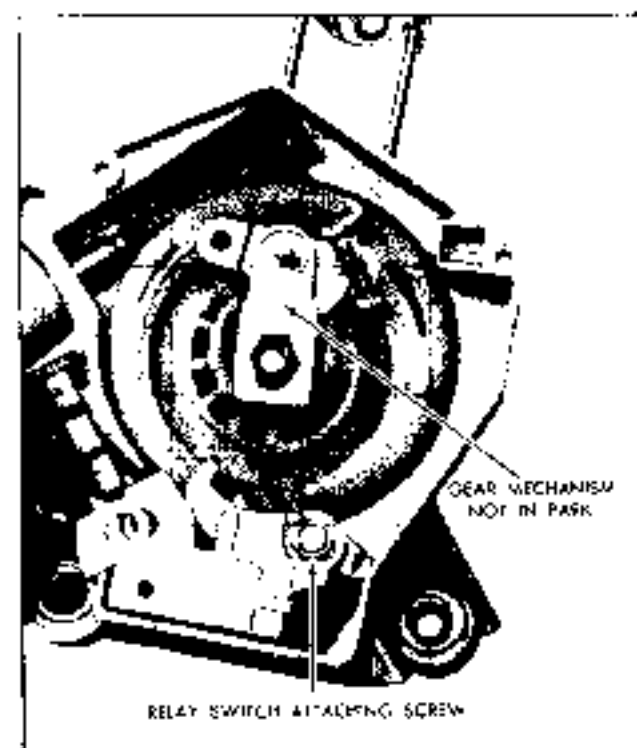

Fig. 12-34 Checking Latch Arm Switch—Partrac
2. If wiper gear drive pawl is in full park position remove gear. If wiper gear mechanism is not in park position (drive pawl away from latch arm (Fig. 12-34, proceed to step 3).
- a. Remove relay-switch attaching screw (Fig. 12-34) and carefully lift relay-switch out of gear box.
a. Remove relay-switch attaching screw (Fig. 12-34) and carefully lift relay-switch out of gear box.
6. Install relay-switch mounting screw (Fig. 12-34).